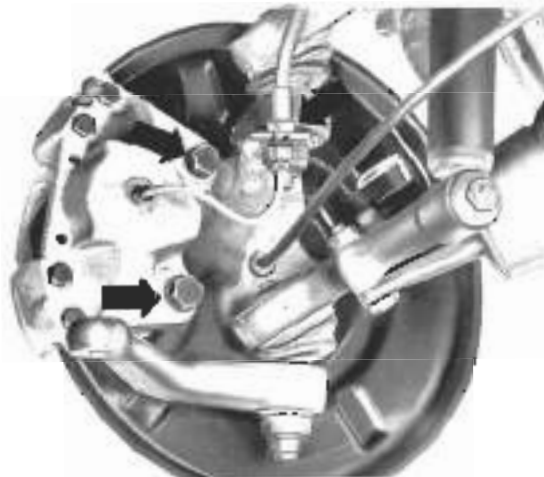

Fig. 6-1. Bolts and hose clamp that hold disc brake caliper on steering knuckle.
- 2 On cars with disc brakes, remove the brake caliper from the steering knuckle by removing the two bolts and the brake hose clamp indicated in Fig. 6-1.